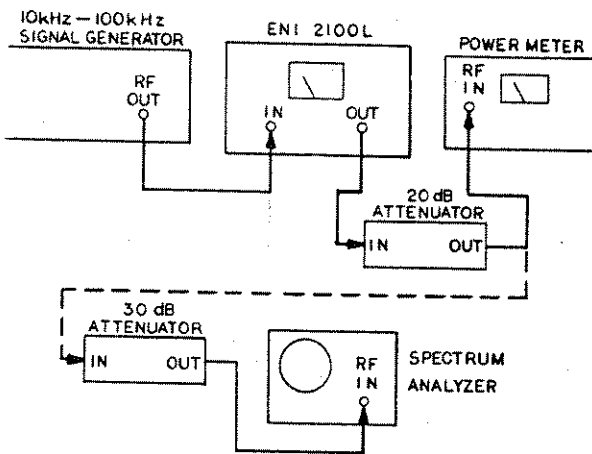

Figure 4-3.
- Connect the Equipment as shown in Figure 4-3, then proceed as follows: